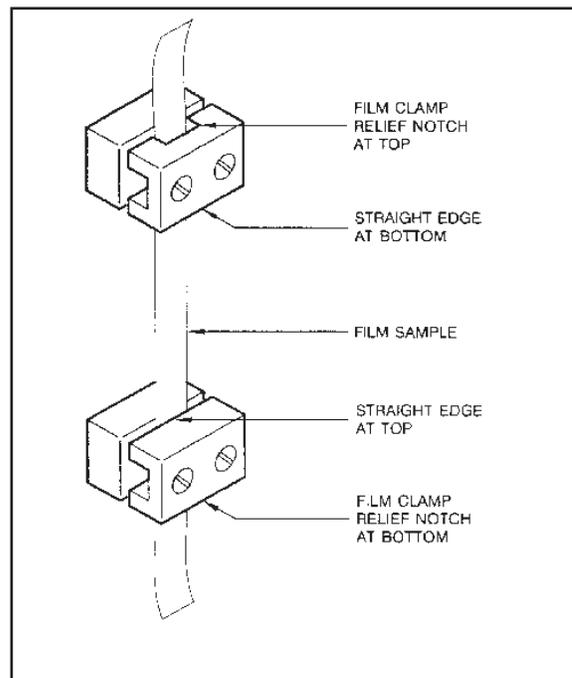

Figure 4.5
2. Separate the jaws of one clamp. Position the clamp so that the clamp relief notch opening is at the top of the sample. Then slide one end of the sample into the clamp, and tighten the screws. (See Figure 4.5.)
4. Lift up the free end of the film, and slide the other clamp onto the end, positioning the clamp relief notch opening at the bottom of the sample (see Figure 4.5).